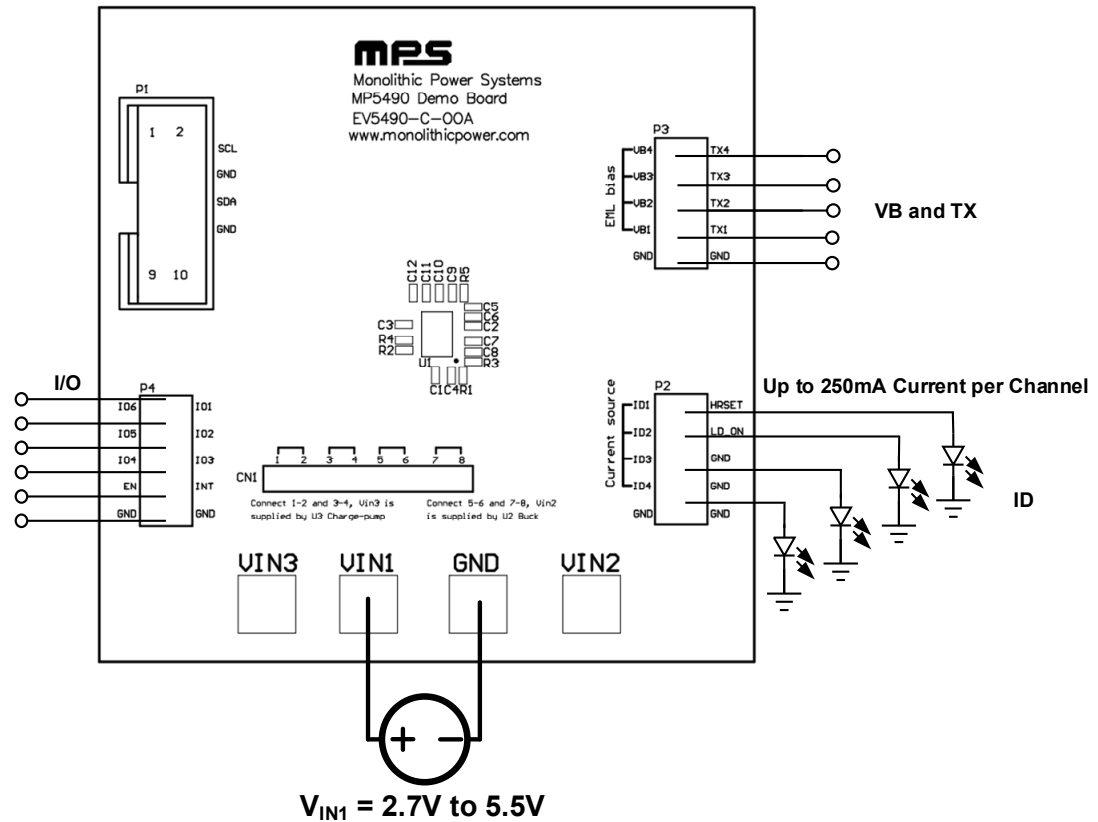

Figure 1: Measurement Equipment Set-Up
The EV5490-C-00A evaluation board is easy to set up and use to evaluate the MP5490's performance. For proper measurement equipment set-up, refer to Figure 1 on page 3 and follow the steps below:
- 3) V_{IN2} and V_{IN3} are powered by V_{IN1} by default, and there is no need for an external power supply. V_{IN2} is 1.8V, and V_{IN3} is equal to $-V_{IN1}$ with a max 200mA I_{OUT} . If the sum of all load currents from the EML bias exceeds 200mA, remove jumpers 1, 2, 3, and 4 from CN1 (see Figure 1 on page 3), and use an external power supply to supply V_{IN3} .
- 4) There are two methods to change the V_{IN2} supply voltage. The first is to change the buck V_{OUT} via the MP5490's ADJ function, and the second is to remove jumpers 5, 6, 7, and 8 from CN1 (see Figure 1 on page 3), and use an external power supply to supply V_{IN2} .